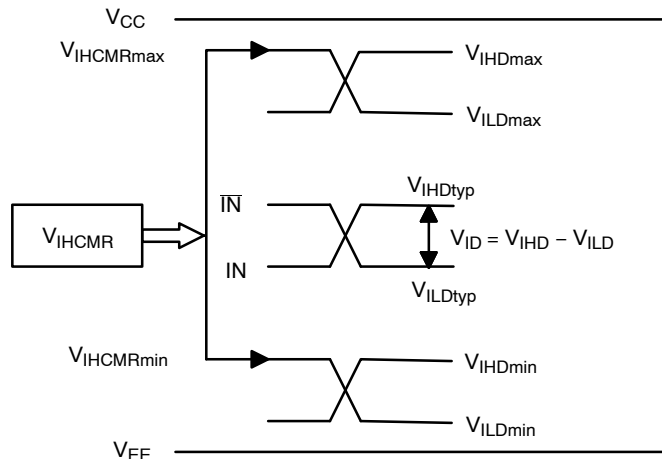

Figure 15. V_{IHCMR} Diagram
29. $t_{SKEW} = |t_{PLH} - t_{PHL}|$ for a nominal 50% differential clock input waveform. See Figure 15.